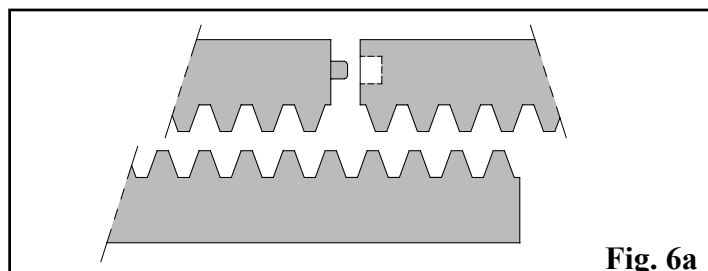

Fig. 6a
5. The first rack section should start 20 mm from the edge of the gate. Once first rack section is mounted on the gate, check it's mesh with Drive Unit output gear. When joining two lengths of rack check the mesh by placing a spare length of rack into the mesh of the two lengths that are being joined see Fig 6a.